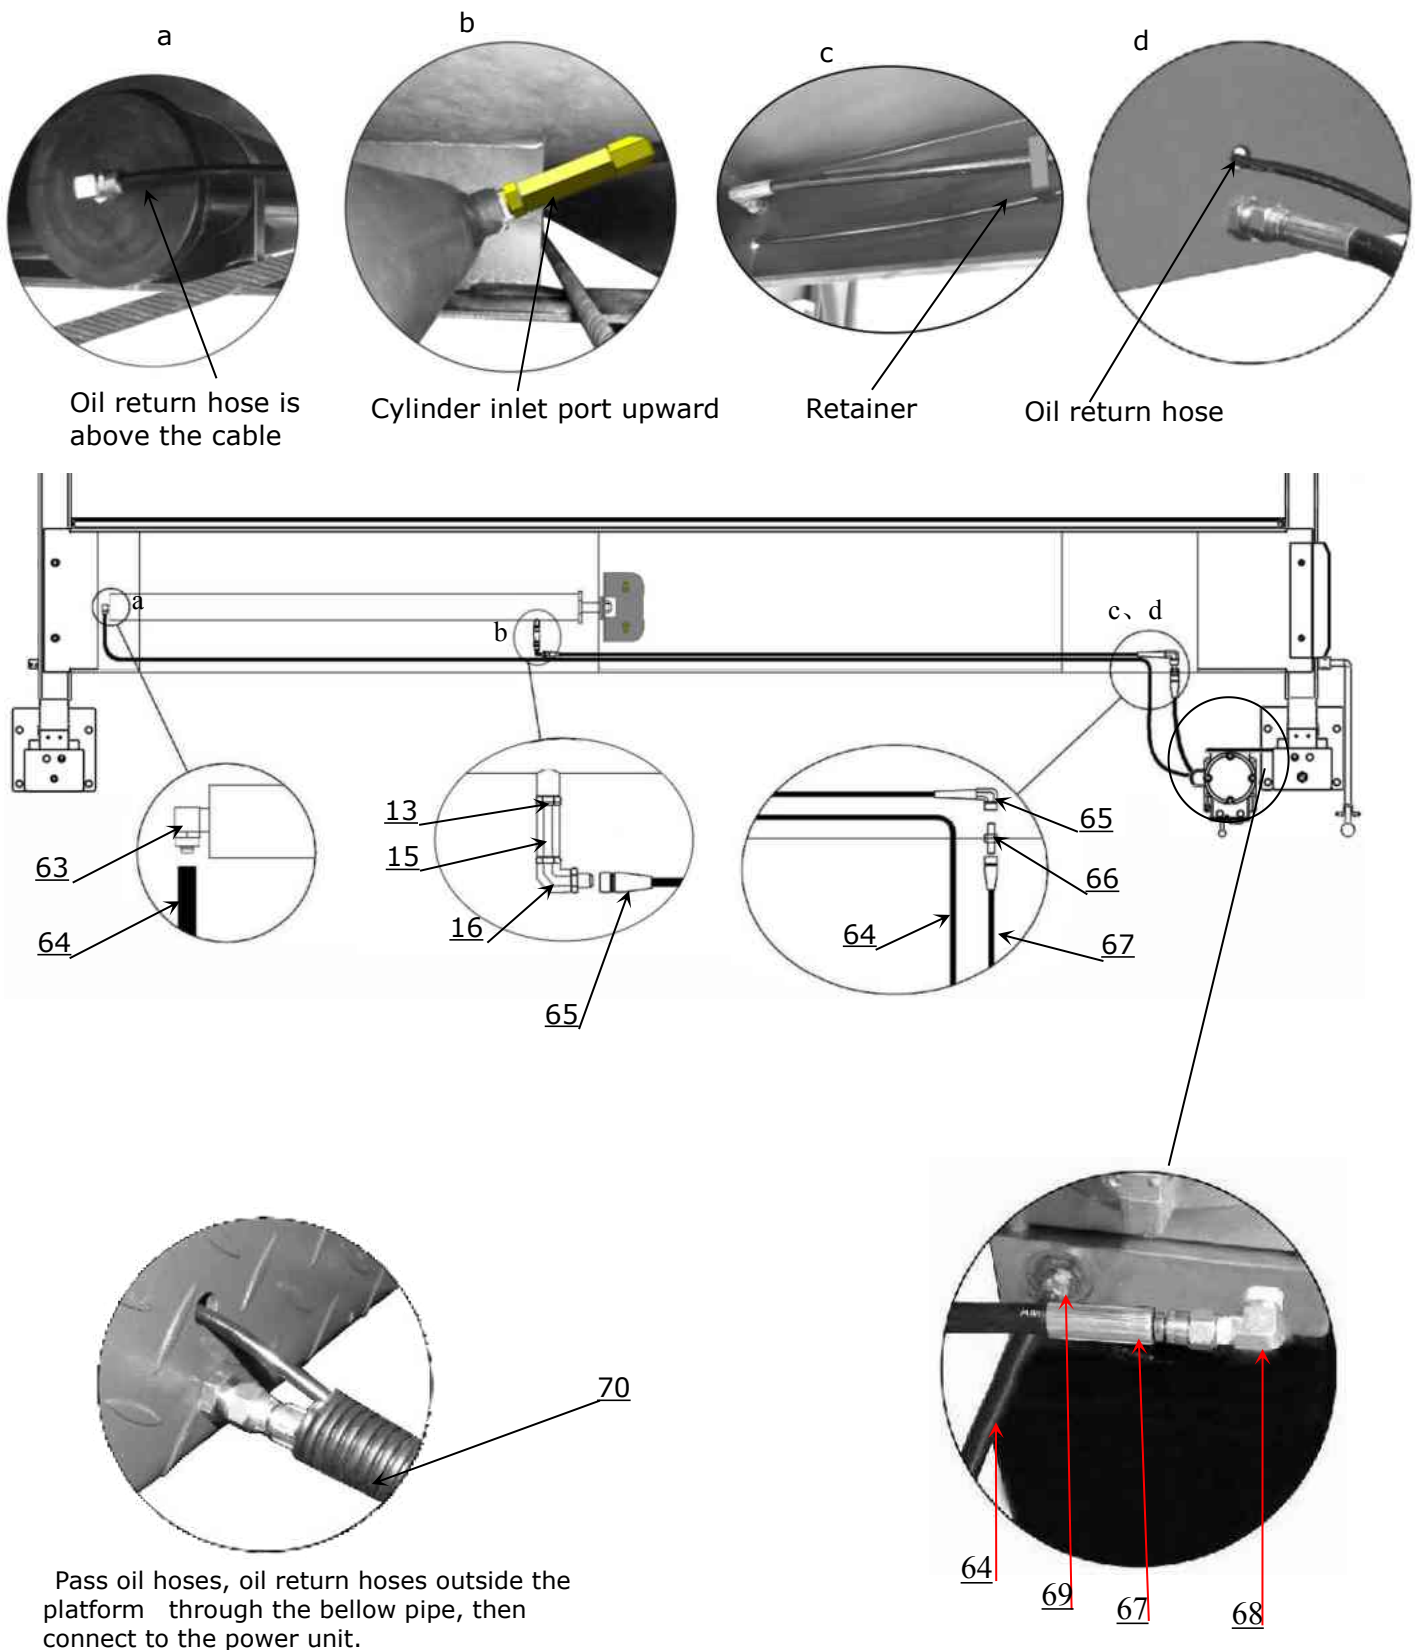

**Fig.32**
**Fixing the motor installing plate to the power side column. And install the power unit to the installing plate. See fig 32.**